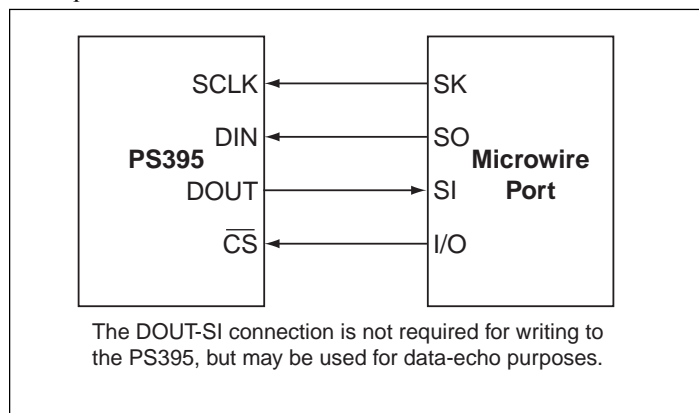

Figure 2. Connections for Microwire
7. Between any two switches. See Figure 2.
The PS395's three-wire serial interface is compatible with SPI™, QSPI™, and Microwire™ standards. If inter-facing with a Motorola processor serial interface, set CPOL = 0. The PS395 is considered a slave device (Figures 2 and 7). Upon power-up, the shift register contains all zeros, and all switches are off.